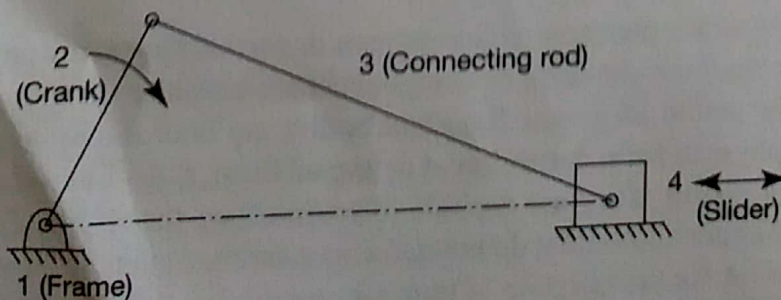

Fig. 1.2 Kinematic links of a slider crank mechanism
A link (or element or kinematic link) is a resistant body (or assembly of resistant bodies) constituting a part (or parts) of the machine, connecting other parts, which have motion, relative to it. A slider crank mechanism of an internal combustion engine, shown in Fig.1.2, consists of four links, namely, (1) frame, (2) crank, (3) connecting rod and (4) slider.
The two links of a machine, when in contact with each other, are said to form a pair. A kinematic pair consists of two links that have relative motion between them. In Fig.1.2, links 1 and 2, 2 and 3, 3 and 4, and 4 and 1 constitute kinematic pairs.